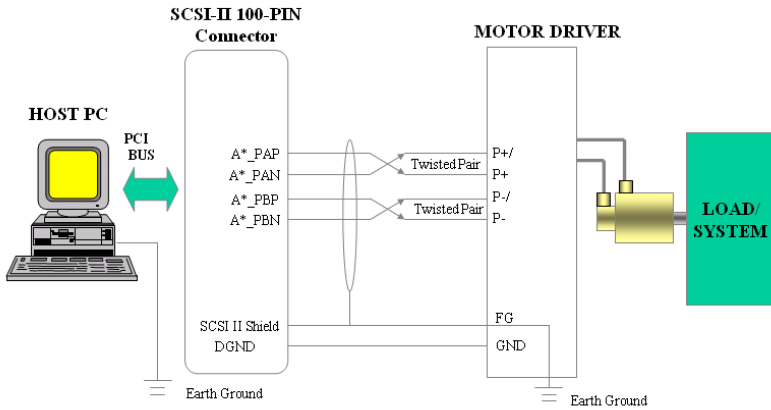

Figure 3.5: Wiring Diagram Between PCI-1261 and Pulse-Type Driver
The following is the wiring considerations, and Figure 3-5 shows the wiring diagram between PCI-1261 and the pulse-type servo motor driver and stepping motor driver.
- The six pulse output channels of PCI-1261 are A*_PAP, A*_PAN, A*_PBP and A*_PBN. These channels are pulse command outputs for connecting with P+, P+/, P- and P-/ channels of the pulse-type servo motor driver / stepping motor driver accordingly, as shown in Figure 3-5.